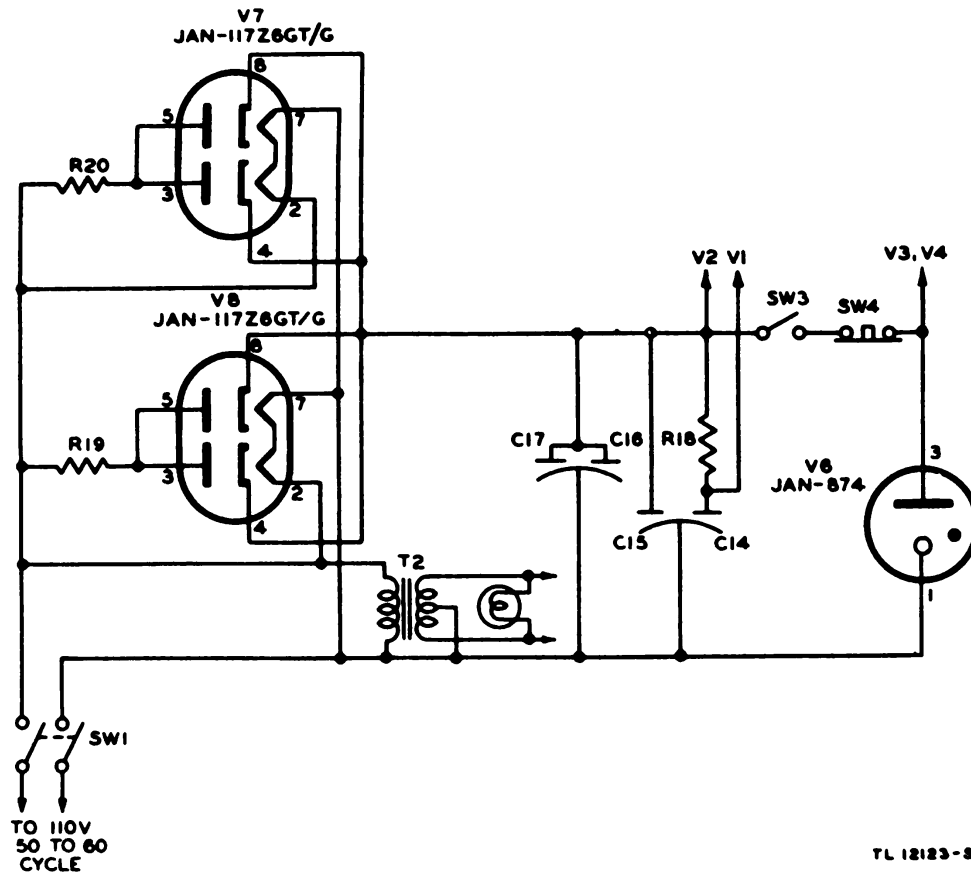

Figure 21. Simplified schematic of power supply, frequency meter section.
60. POWER SUPPLY, FREQUENCY METER SECTION (fig. 21).